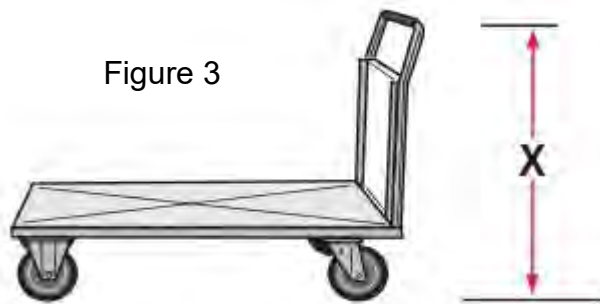

Figure 3
- Fixed horizontal handles should be at a height between 91 cm and 112 cm above the floor (Figure 3 below).